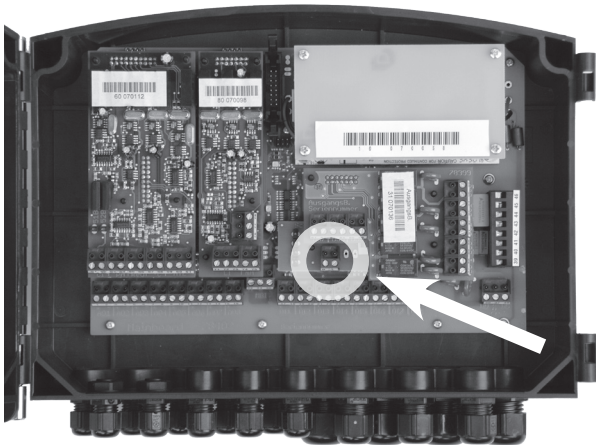

Fig. 4.14.1: RS 485 connections on the interface component's board partially hidden from view by the output components
*The data line must be attached directly to the connecting terminals of the TOPAX DX SMART (terminals a and B, see Fig. 4.14.1). Separate clamping or branching boxes should not be set. The network address 10 is not permitted.*